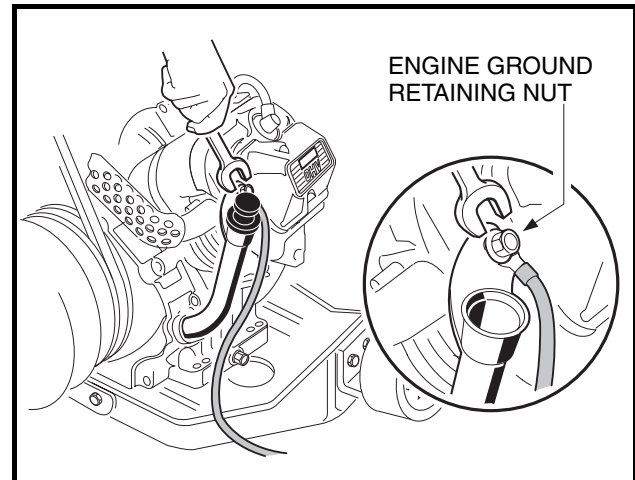

Figure 18-14 Engine Ground Wire
- 4.6. Remove retaining nut and disconnect the engine ground wire from the oil filler tube mounting bracket (**Figure 18-14, Page 18-8**).